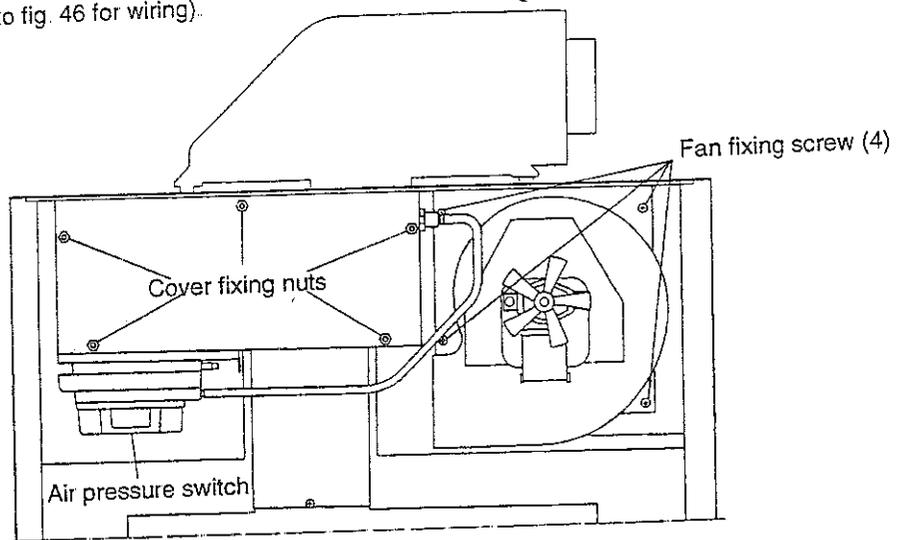

Fig. 45
- b) Remove the five screw securing the air collection plate (fig. 45), and withdraw the plate complete with the air pressure switch (Take care not to lose «P» clip).